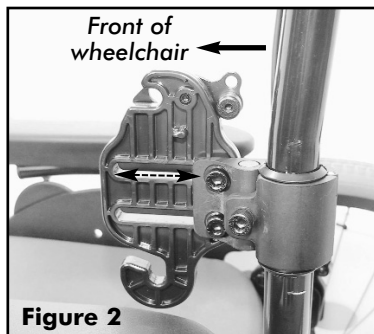

Figure 2
By changing the orientation of the Mounting Plates on the Cane Clamps, the assembly can be reconfigured\* to provide a more forward mounting position for the back if desired (up to a maximum 2" (51mm) forward offset - see **Figure 2**)
- Install Cane Clamp as illustrated in **Figure 2**.